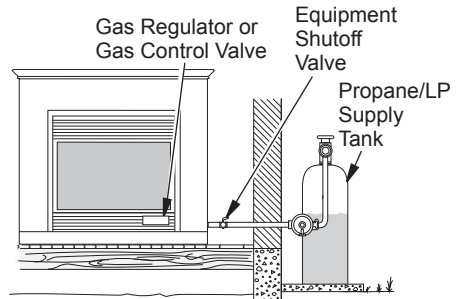

Figure 26 - Checking Gas Joints (Propane/LP Only)
3. Check all joints from gas meter to equipment shutoff valve for natural gas or propane/LP supply to equipment shutoff valve for propane/LP (see Figures 26 or 27). Apply noncorrosive leak detection fluid to all joints. Bubbles forming show a leak.
4. Check all joints from equipment shutoff valve to gas regulator (Thermostat-Controlled Models) or to gas control valve (Remote-Ready Models) (see Figures 26 or 27). Apply noncorrosive leak detection fluid to all joints. Bubbles forming show a leak.